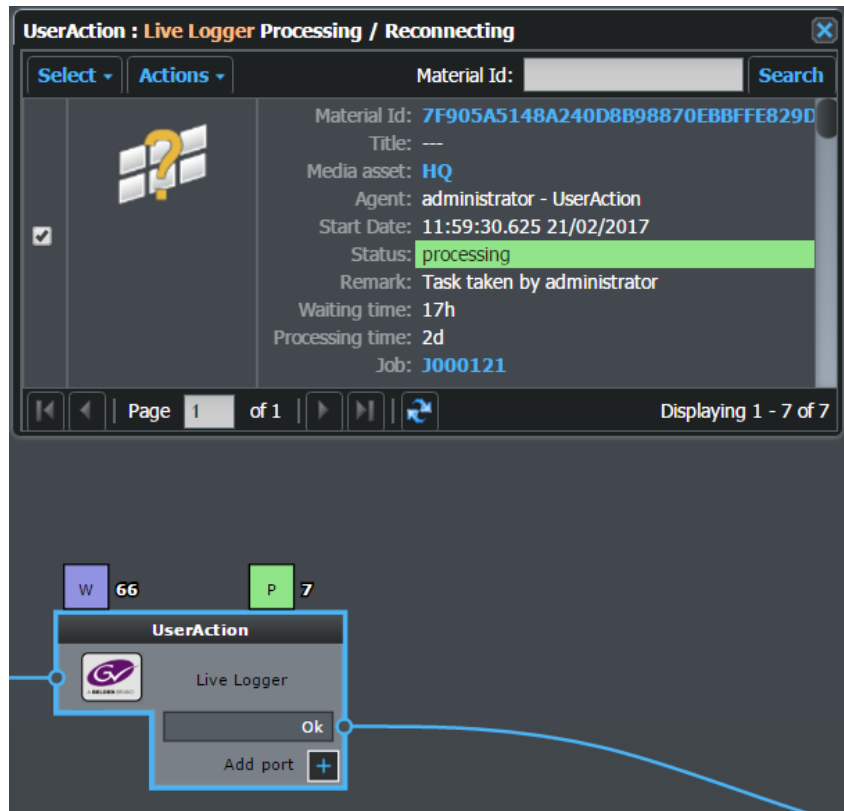

Fig. 3-79: Processing Status
- A **green** square represents a **processing** status to indicate that the task is currently being processed. This status square also contains the letter **P** as shown in Figure 3-79: